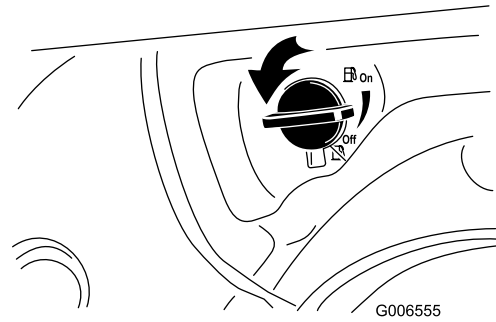

Figure 21
2. Turn the fuel shutoff valve 1/4 turn counterclockwise to open it (Figure 21).